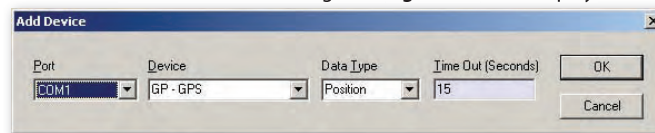

Figure 3.5 - Add Device Dialog Box
2. Click **Add**. The Add Device dialog box (**Figure 3.5**) will display.